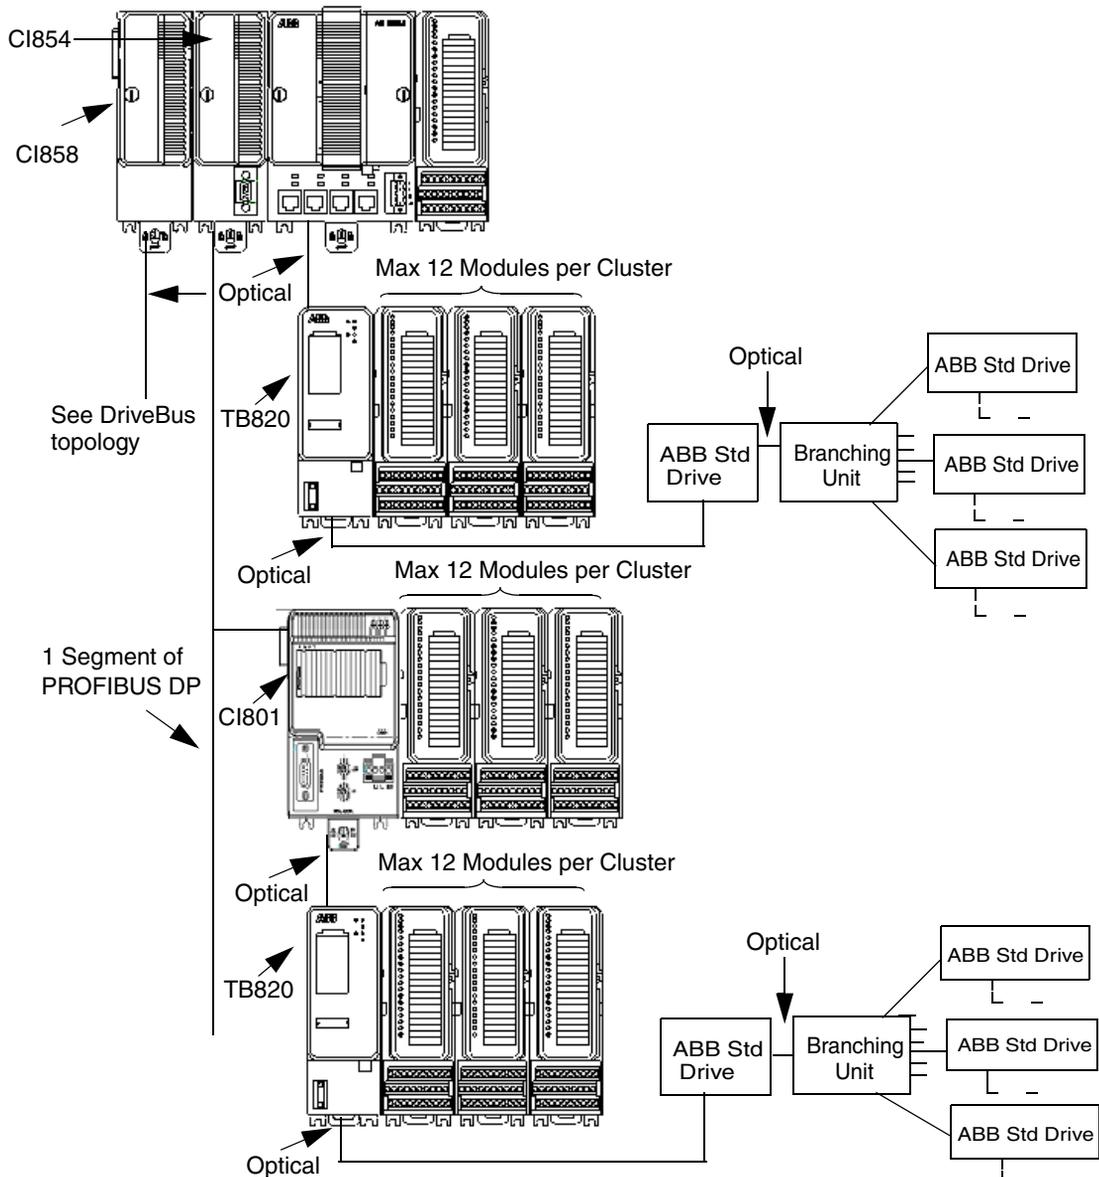
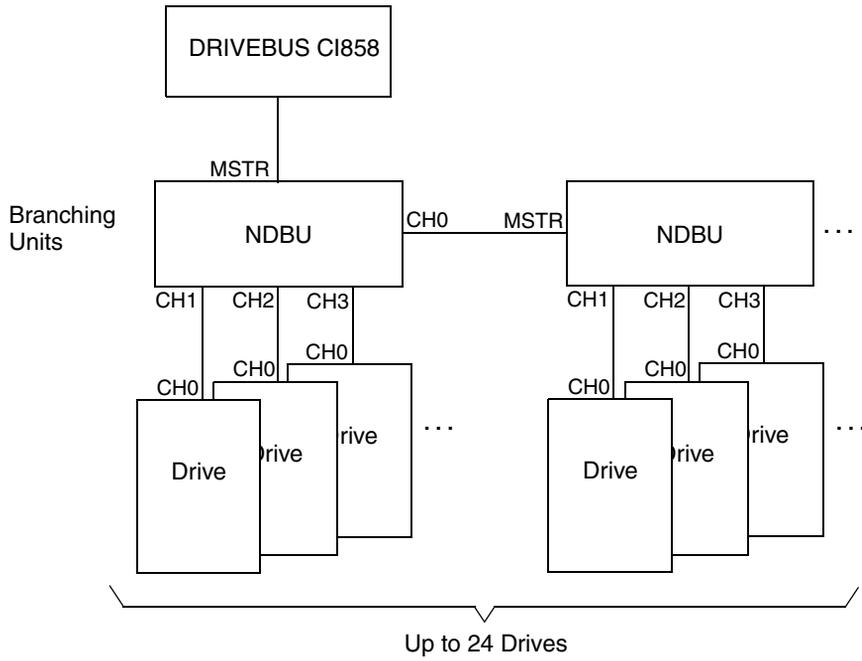

Figure 59. Example of Connection of ABB Drives in Single CPU Configuration
Figure 60. DriveBus Topology
In single CPU configuration, ABB Drives can be connected to the processor unit via the optical ModuleBus. See Figure 59 on page 171. The number of ABB Drives which can be connected to the optical ModuleBus, can be described by the following equation:
In single and redundant CPU configuration, ABB Drives can be connected via PROFIBUS DP and CI801. See Figure 59 on page 171. Only Standard Drives can be connected to CI801. Fourteen (14) Standard Drives can be connected to each CI801 if there are no I/O units connected. For the number of Drives that can be connected to the same CI801, when both I/O units (TB820) and Standard Drives are connected, refer to documentation about FCI for PROFIBUS DP.
For information about Branching Unit (Figure 59 on page 171) see ABB Drive System documentation.
ABB drives can be connected to the AC 800M via the CI858 unit, see Figure 59 on page 171 and Figure 60 on page 172. The drive interface can be used for controlling up to 24 drives or inverter units.
Connection of multiple drives requires the use of a branching unit, which enables the construction of a logical bus with physical star topology, see Figure 60 on page 172. The branching units can be chained.